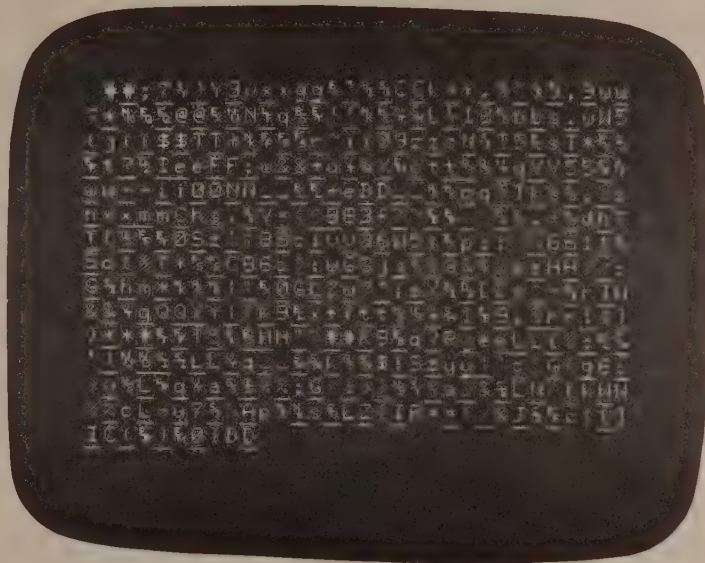

FIGURE 4.11-2. FULL SCREEN
The FULL SCREEN selection displays the Transmit Data (TD) and Receive Data (RD) on a row-by-row basis in chronological order, as acquired from the monitored data link. With one blank row of demarcation used to separate old from new data, the CRT display can contain a maximum of 480 characters. See Figure 4.11-2.